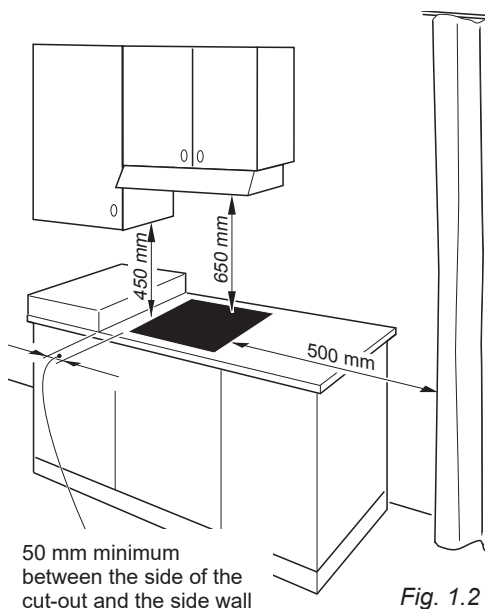

Fig. 1.2
- There must be a distance of at least 650 mm between the hob and any wall cupboard or extractor hood positioned immediately above (see fig. 1.2).